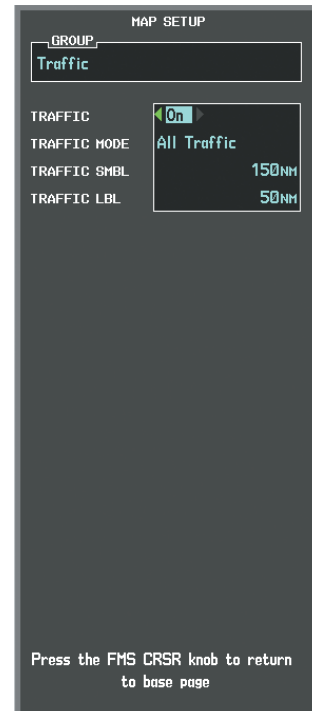

Figure 6-158 Navigation Map Page Setup Menu, Traffic Group
- 5) Turn the large **FMS** Knob or press the **ENT** Key to scroll through product selections (Figure 6-158).